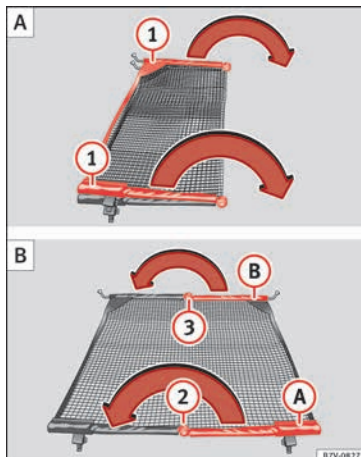

Fig. 167 Unfold the net partition ① then fold it again ② and ③
Fold out the cross support rods »» Fig. 167 ① for the net partition fully in the direction of the arrow until you hear a “click”.
- Press on the release button »» Fig. 167 ② and bend the rod (A) in the direction of the arrow with the release button pressed.
- Press on the release button »» Fig. 167 ③ and bend the rod (B) in the direction of the arrow with the release button pressed.